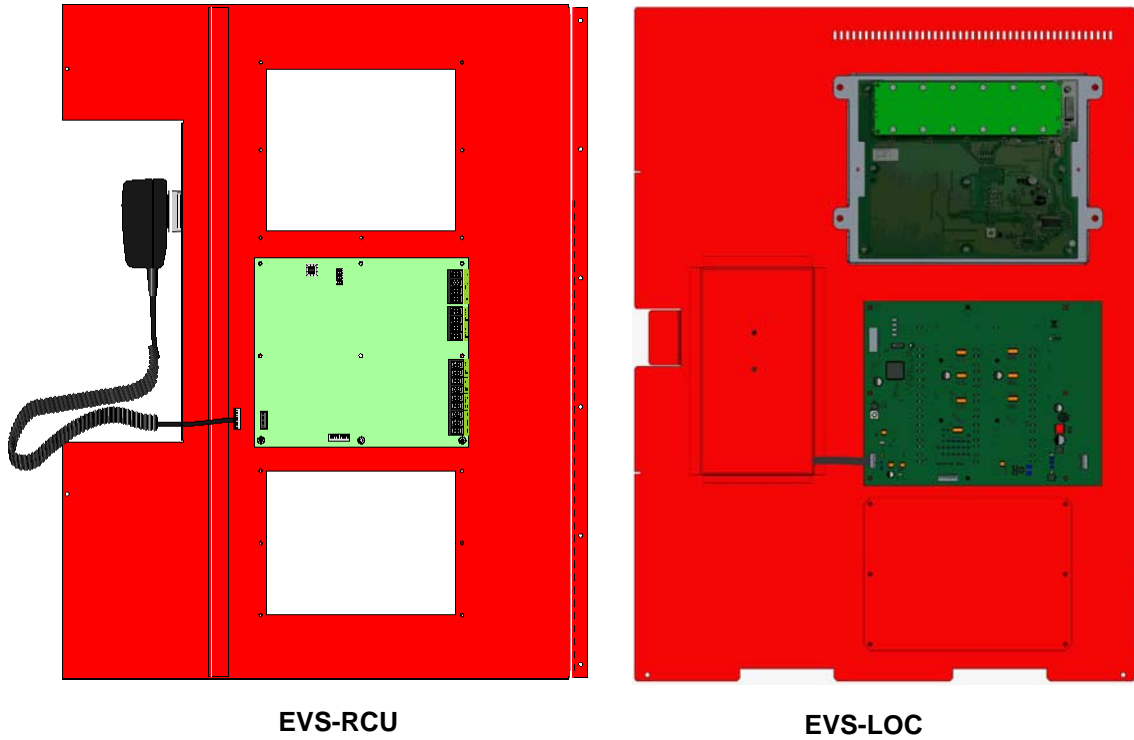

Figure 4.7 Back View of Dead Front Panels
- Unplug the Microphone from the microphone connector. See Figure 4.7.